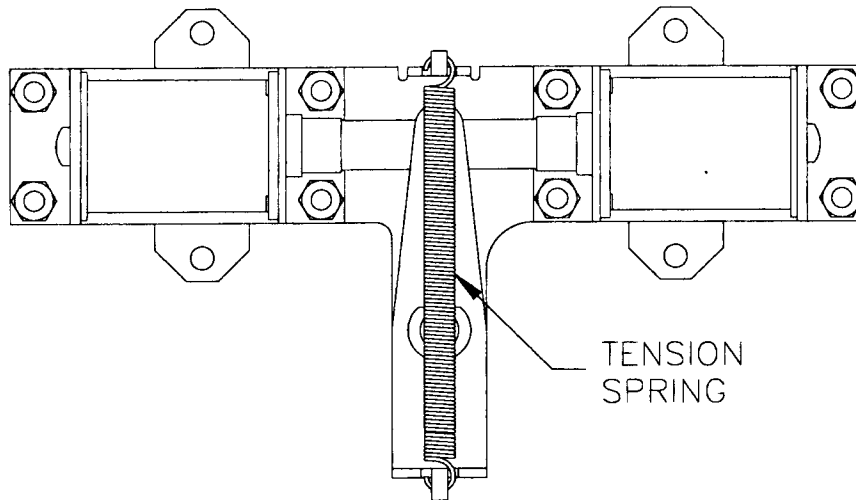

Fig. 10
- b. Remove tension spring carefully. (See Fig. 10)